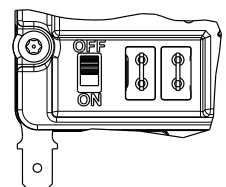

Figure 2
- Move selector switch to the "on" position, (see figure 2), and set room thermostat to desired temperature. Allow burner to cycle on and off.